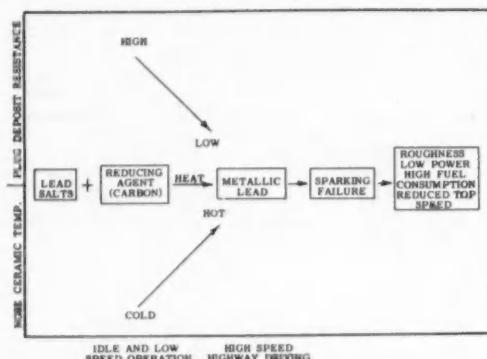

Fig. 1—Postulated mechanism of automotive spark plug fouling—metallic lead theory
The mechanism by which metallic lead is formed on spark plugs, subsequently causing misfire, is postulated to be as shown diagrammatically in Fig. 1. It involves: (1) deposition of lead salts on the plug ceramic due to incomplete scavenging; (2) mixing of carbonaceous material with the lead salts during periods of idle or rich mixture, or extended operation at such lean mixtures that incomplete combustion occurs; (3) heating of the resultant mixture by increased output operation, with the result that a certain proportion of the deposit is reduced to metallic lead; and (4) misfiring of the spark plug due to the possibly discontinuous, but excellent electrical conducting, path offered by the metallic lead particles.